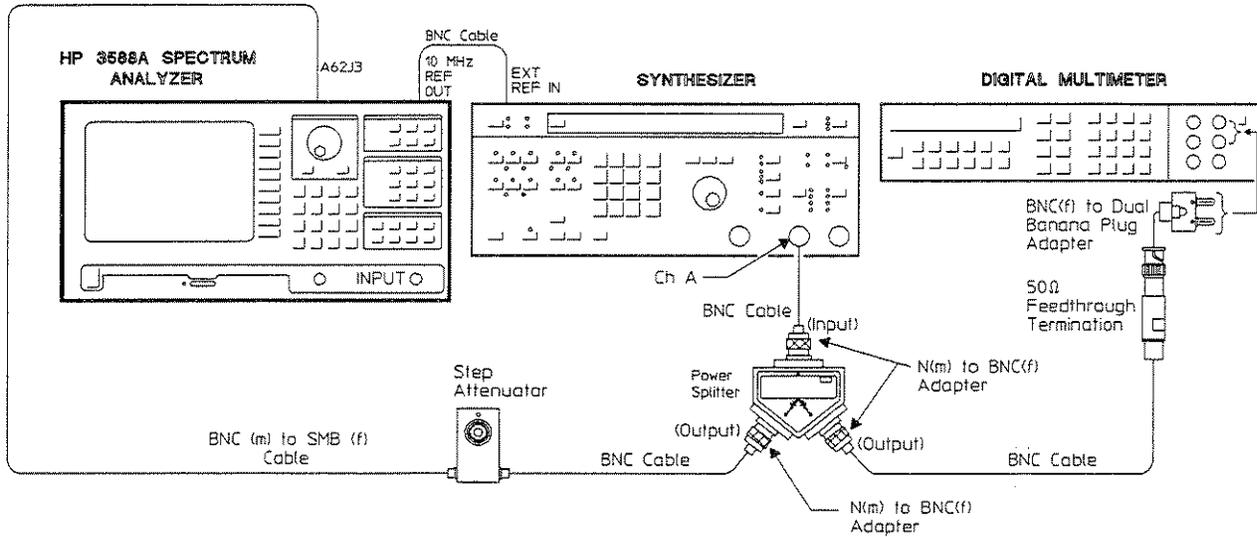

Figure 5-24. Troubleshooting Log Scale Accuracy
3. Connect the test equipment as shown in figure 5-24.